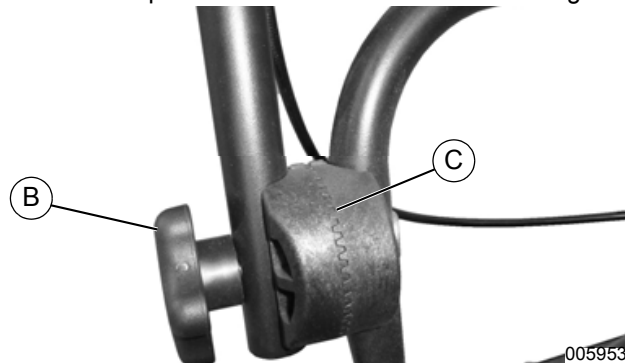

Figure 2-4. Handlebar Adjustments
2. See Figure 2-4. Loosen adjustment knob (B) on both sides and position handlebar at comfortable height.